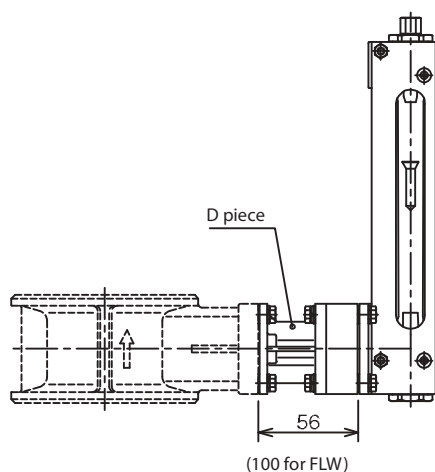

Fig.4 External view of D piece
- ③ Use of a cock piece enables removal of the flow rate indicator without stopping the flow in the main pipe. This makes it easy to drain the water to prevent the flow rate indicator from being damaged when the flow rate indicator is being cleaned, or when the water freezes.
- ④ Use the D piece to maintain the temperature of pipe. (**Fig.4**)
- ⑤ Use of connectors